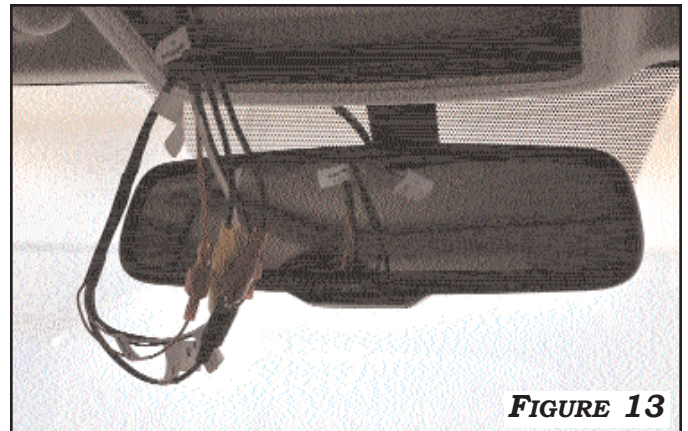

FIGURE 13
2. ROUTE MIRROR HARNESS UP WINDSHIELD AND BEHIND THE HEADLINER TO CONSOLE OPENING. ROUTE THE END OF THE CAMERA EXTENSION HARNESS MARKED "TO MIRROR" WITH THE MALE CONNECTORS UP THE CENTER OF THE WINDSHIELD AND BEHIND HEADLINER TO THE CONSOLE OPENING. **FIGURE 13**